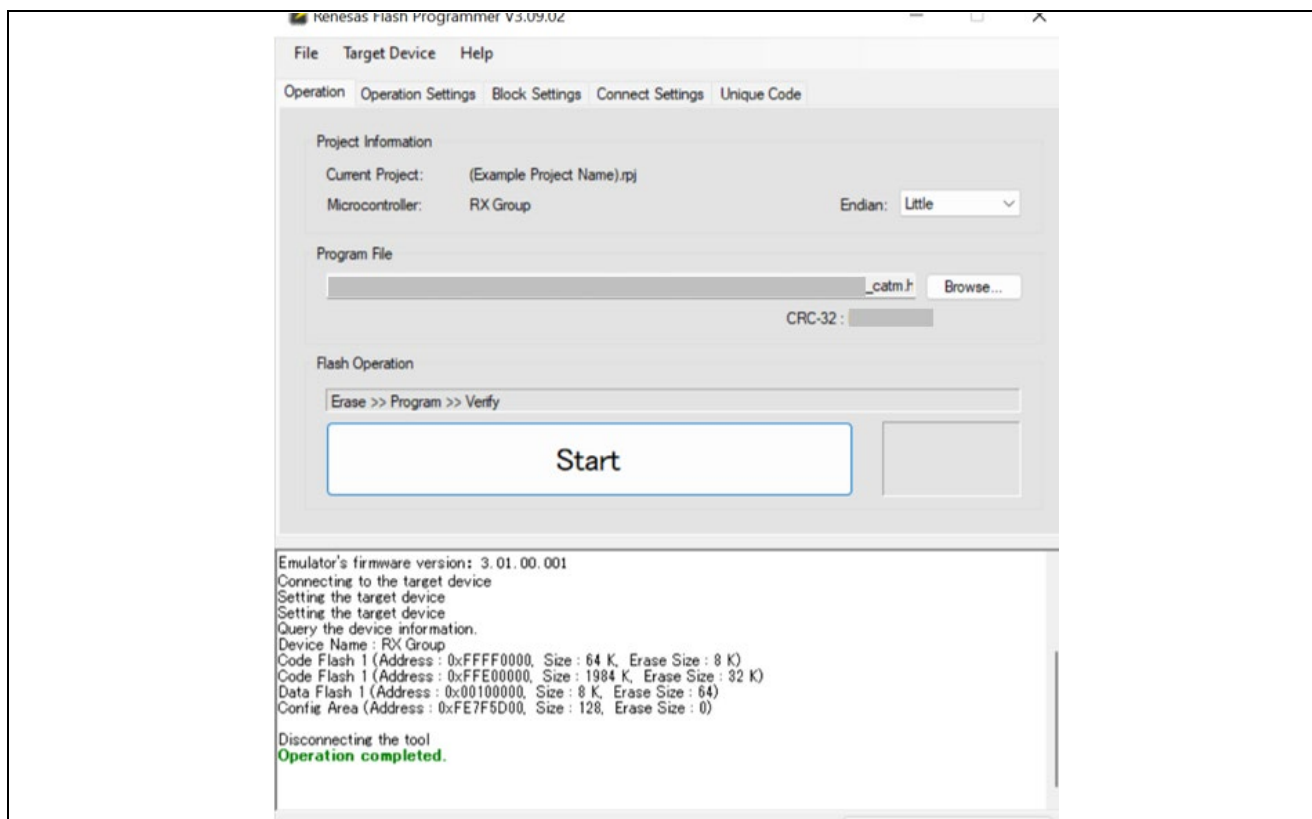

Figure 3. The Main Window of Renesas Flash Programmer After Creating a New Project
7. Verify the message **Operation Complete** is printed in the main window. Under Program File, click Browse to choose to the program file that will be flashed onto the board (Figure 3). Using the file explorer window, navigate to the example project's **rx671_catm.hex** file and click Open.